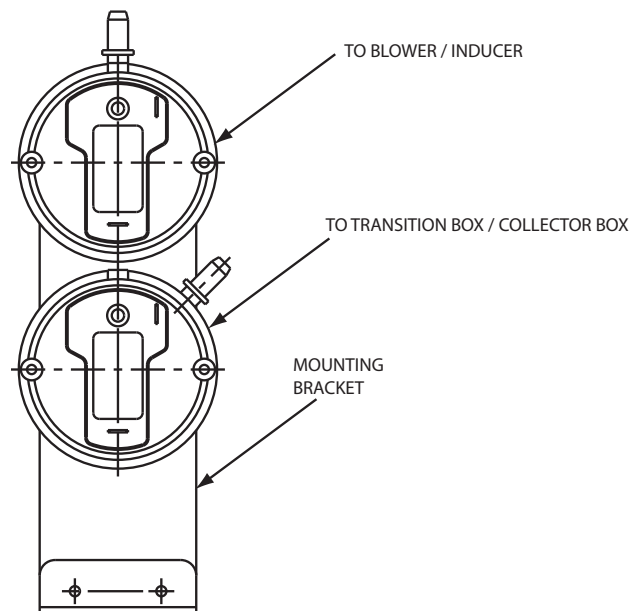

Fig. 1 - Pressure Switch
1. Mark two (2) wires connected to the high-fire pressure switch and the two (2) wires connected to the transition switch.
2. Disconnect the four (4) wires from the pressure switches.
4. Remove the two (2) screws from the front mounting bracket (See Fig. 1).
5. Install new high altitude pressure switches and mounting bracket with two (2) screws.